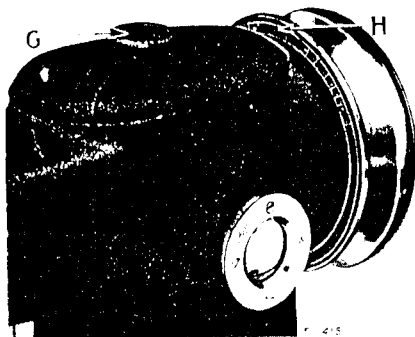

Fig. 18. Stitch Regulator
To change the length of stitch, press the plunger (G, Fig. 18) and turn the balance wheel slowly until the plunger drops into a notch in the feed eccentric. Then turn the wheel forward or backward to increase or decrease the length of stitch, which is indicated by the letters on the indicator plate at H. The letter "A" indicates the longest stitch, and the letter "L" the shortest. When the desired setting is obtained, release the plunger. **NEVER PRESS THE PLUNGER (G) WHILE THE MACHINE IS RUNNING.**
The stitch regulator plunger (G, Fig. 18) can be removed to prevent unauthorized persons from changing the stitch length. Take out the small screw near the tip of the plunger, which will allow the plunger to be withdrawn when the stitch length has been adjusted. The hole in the top cover should then be filled by inserting a screw 140317X (not regular equipment).